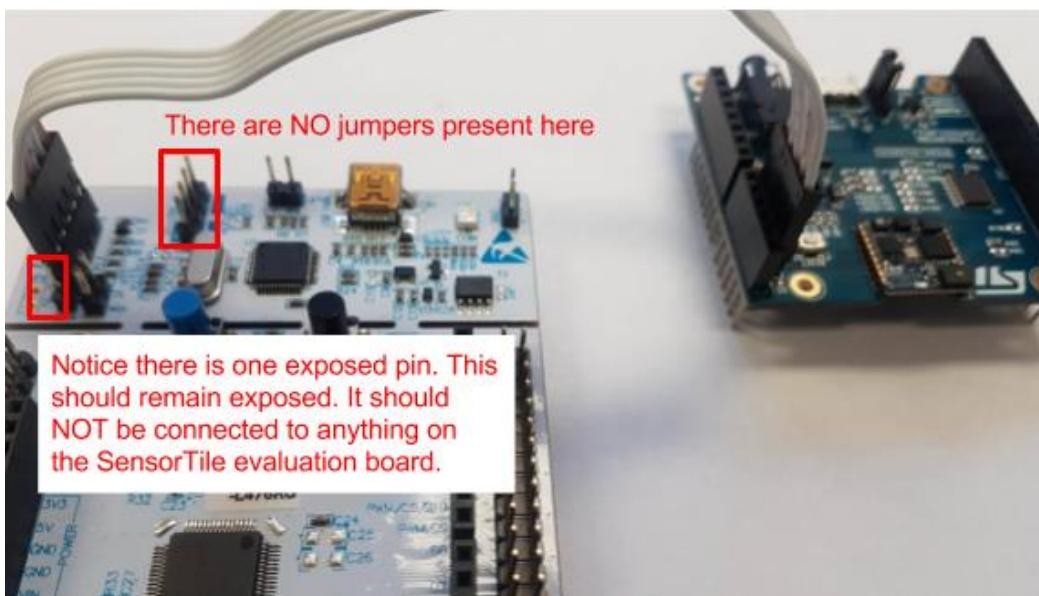

Figure 8: Second figure depicting correct hardware configuration.
4. Connect the boards by attaching an SWD connector from the Nucleo board to the SensorTile board. Be **very** careful in this step. Please examine the figures Figure 7 - Figure 8. Do not proceed with this tutorial until you have verified with an instructor that the hardware is correctly configured.